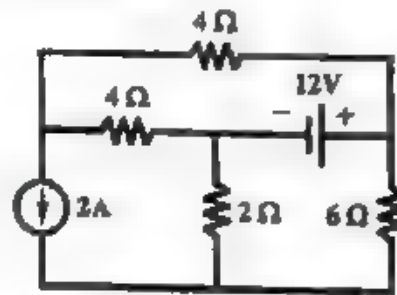

Fig. 2
- (b) Using Thevenin's Theorem find the current flowing through 6Ω resistor of the network shown in fig. 2. 3